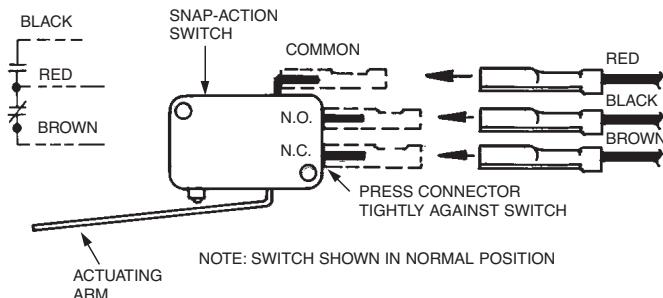

FIGURE 106
3. Press each wire assembly onto the 3-terminals located on the switch(s). Be sure that the connector is pressed tight against the switch. See Figure 106.